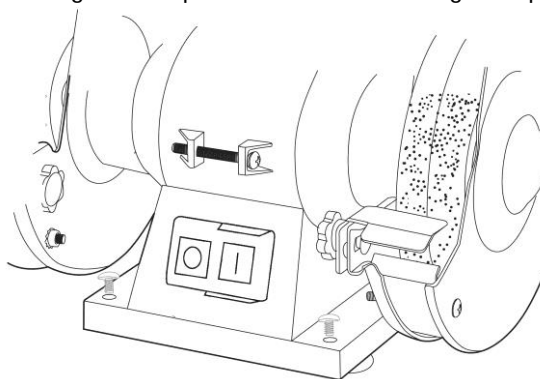

Fig.1
1. First drill four holes. Use the appliance feet (9) as a template to mark the drill holes. Place the double grinder in the desired position and insert a punch or a pen through the holes on the appliance feet to mark the position of the drill holes.
3. Now place the double grinder in position and secure using the appropriate screws and washers (Fig.1).